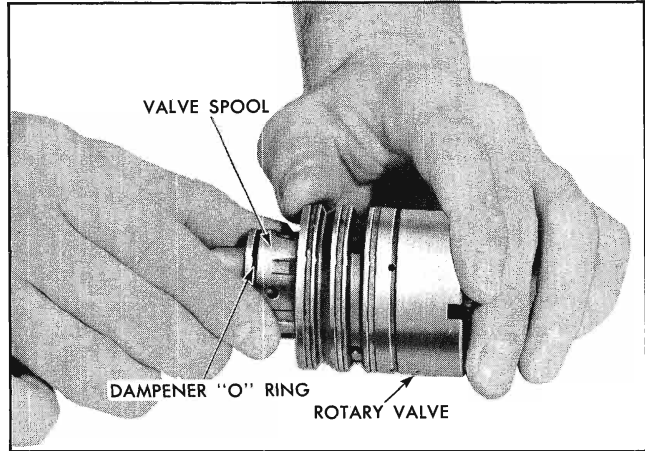

Fig. 9A-16 Removing Valve Spool from Rotary Valve
5. With notch end of spool towards valve body, install spool, aligning spool notch with pin in stub shaft. See Fig. 9A-17.